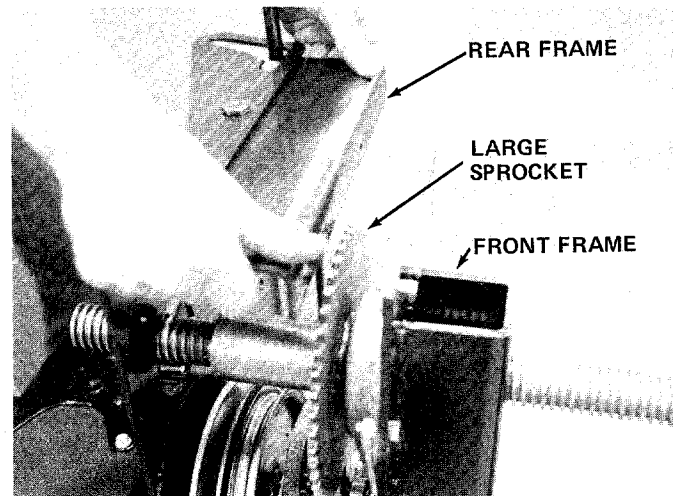

FIGURE 14
11. Lift up on the rear frame so it will clear the large sprocket. Pull back to separate front and rear frames. See figure 14.